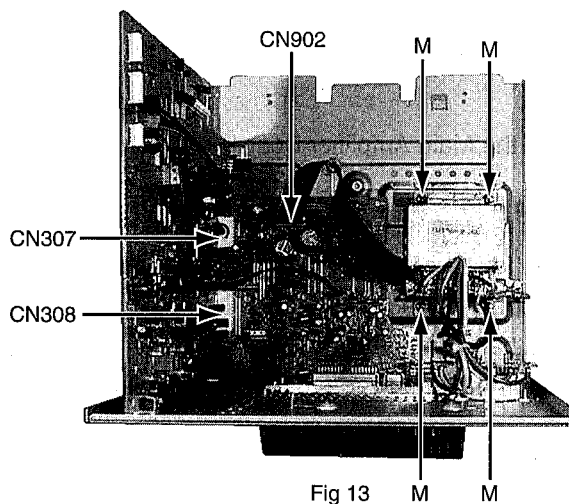

Fig 13
7. Disconnect the parallel wires protruding from the power supply board from connector CN902 of the power amplifier board. (See Fig 13)
3. Disconnect the main amplifier board connectors CN307 and CN308 from the power amplifier board. (See Fig 13)